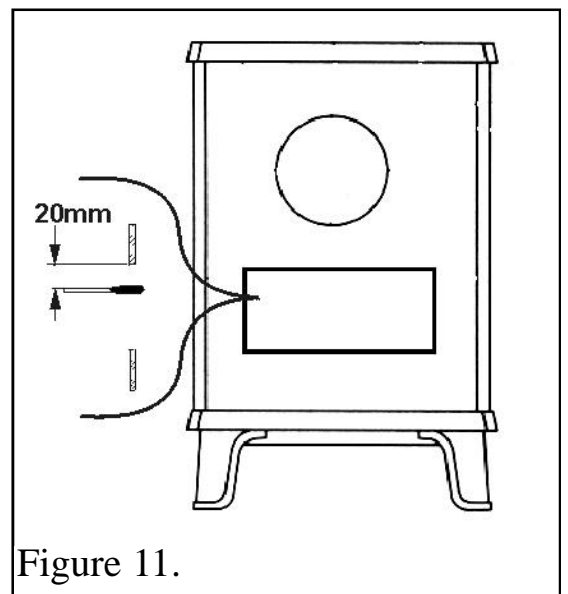

Figure 11.
4. Hold a lighted smoke match close to the draught diverter outlet at the back of the stove (See figure 11).